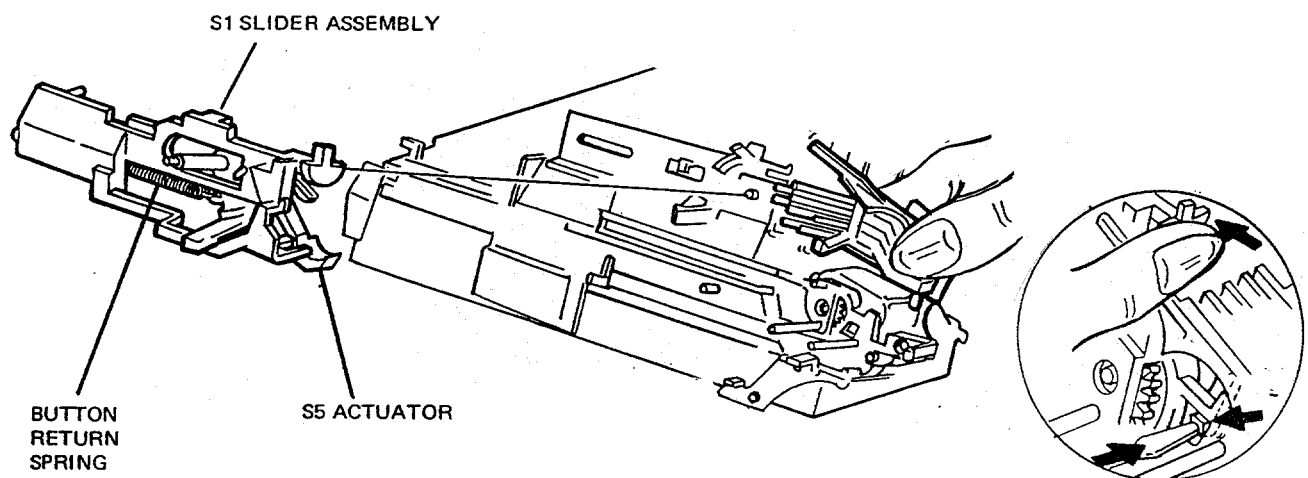

Fig. 44 Removing S1 Slider and S5 Actuator
53. Push the Slider in as shown in Fig. 44 inset. Push in detent and the Contact Support Block will pop out. Let it hang from the Flex, if Flex has not already been removed.
Pull the S1 Slider and S5 Actuator free of the Cone (Fig. 44). Disassemble Slider components.